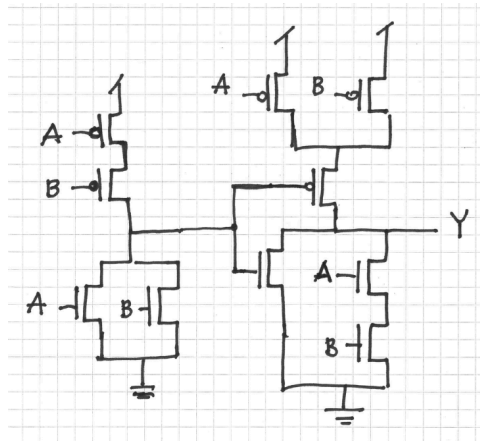

Figure 8: The transistor diagram for the XOR gate in problem 2 a).
- a) The circuit diagram is shown in Figure 8.